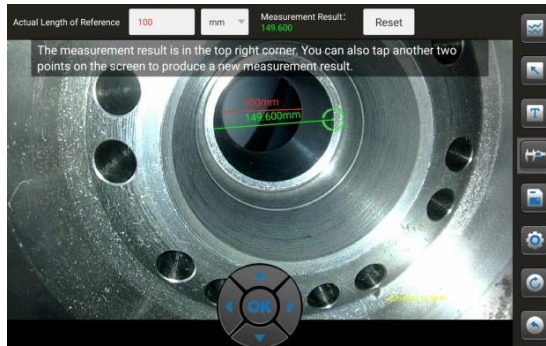

Figure 8-5-12
Click the measurement icon to measure the image (as shown in Figure 8-5-12):
- 1) First, tap two points to select the reference line in the image (as shown by the red line in the middle of Figure 8-5-12);
- 3) Finally, tap another two points to measure (the green line in the middle of Figure 8-5-12), it will work out the actual length of the measured line;